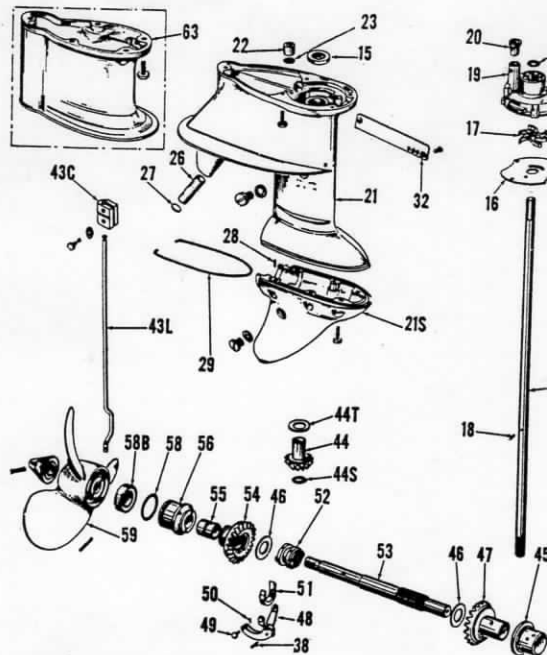

Fig. OM7-18—Exploded view of gear case assembly and water pump of the general type used.
The propeller shaft (53—Fig. OM7-18) and drive gears can be removed after first draining lubricant from gear compartment, removing the pivot screw or pin (38); then unbolting and removing gearcase lower housing (21S). To remove the drive pinion, it is first necessary to remove snap ring (44S) or retaining strap on roller bearing models.